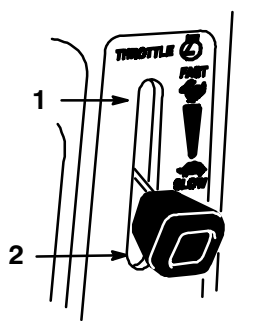

Figure 4
5. Move throttle lever to “FAST” (Fig. 4).
- After the engine starts, move the choke lever to “OFF” (Fig. 4). If the engine stalls or hesitates, move the choke lever back to “ON” for a few seconds. Then move the throttle lever to desired setting. Repeat this as required.
- Move the throttle lever between half and full throttle (Fig. 4).